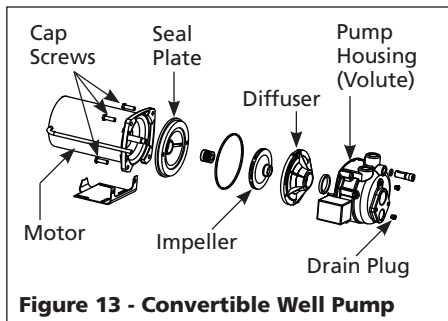

Figure 13 - Convertible Well Pump
3. Remove the four cap screws holding the pump housing (volute) to the motor (Figure 13).